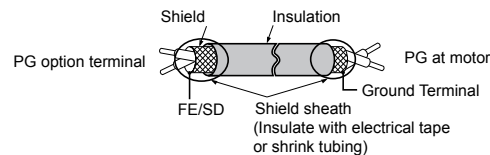
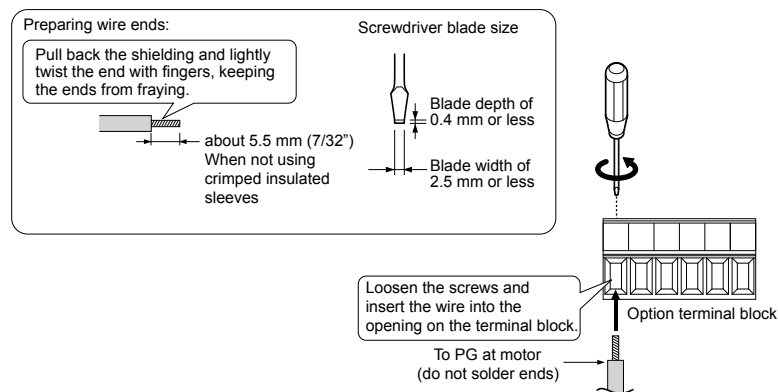

Figure 8.6 Preparing Ends of Shielded Cable
Figure 8.7 Preparing and Connecting Cable Wiring
2. There are two screw holes on the drive for use as ground terminals (H). When connecting three options, two ground wires will need to share the same drive ground terminal.
4. Prepare and connect the wire ends as shown in Figure 8.6 and Figure 8.7. Refer to Wire Gauges and Tightening Torques of PG-X3 Option on page 529 or Refer to Wire Gauges and Tightening Torques of PG-X3 Option on page 529 to confirm that the proper tightening torque is applied to each terminal. Take particular precaution to ensure that each wire is properly connected and that wire insulation is not accidentally pinched into electrical terminals.